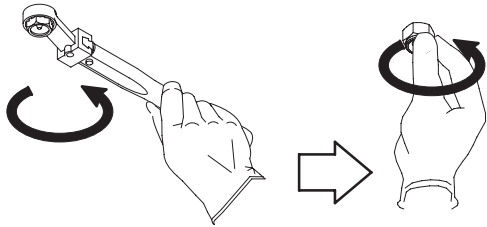

Figure 4 Removing a CF nozzle
1. See Figure 4. Remove the nozzles using whichever of the following procedures is appropriate: